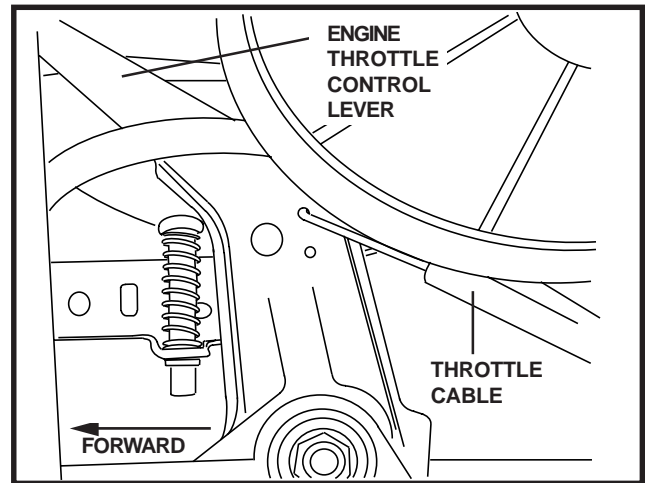

FIGURE 7
13. Push throttle control lever on console forward to full extent. Pull throttle control lever on engine back as far as possible. See Figure 7.
14. Insert "L" end of throttle cable into the outside hole of the engine throttle control lever. Figure 7.